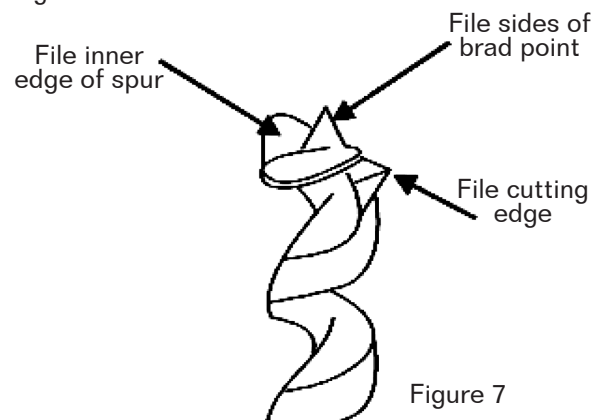

Figure 7
1. Sharpen the bit by using a small, smooth file, following the original shape of the bit. File the inside edge of the spur, the sides of the brad point, and the cutting edge inwards toward the flute of the bit. See Figure 7. Do not file the outside edge of the spur as this will affect the diameter of the bit.